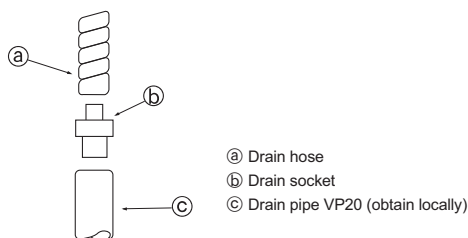

Fig. 5-1
5.1. Drainage Piping Work (Fig. 5-1)